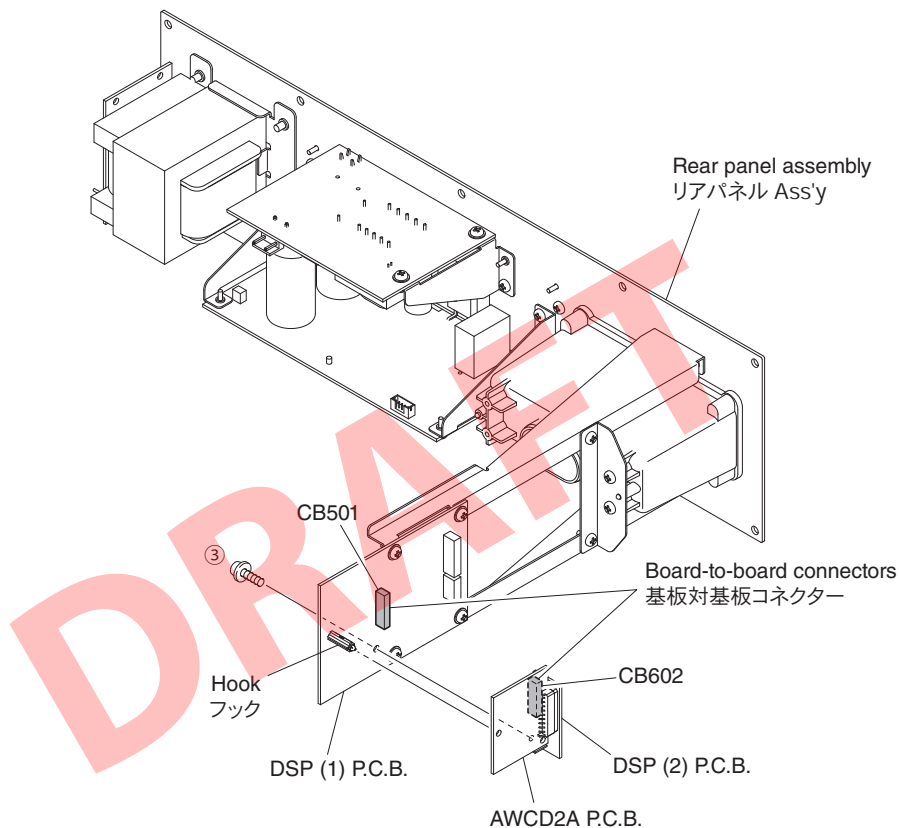

Fig. 4
- a. Remove screw (③). (Fig. 4)
- b. Release hook. (Fig. 4)
- c. Remove CB501 and then remove the AWCD2A P.C.B. together with the DSP (2) P.C.B. which is connected directly to the DSP (1) P.C.B. with board-to-board connectors. (Fig. 4)
- a. ③のネジ1本を外します。(Fig. 4)
- b. フックを外します。(Fig. 4)
- c. CB501を外し、AWCD2A P.C.B.をDSP (2) P.C.B.と一緒に外します。(Fig. 4)